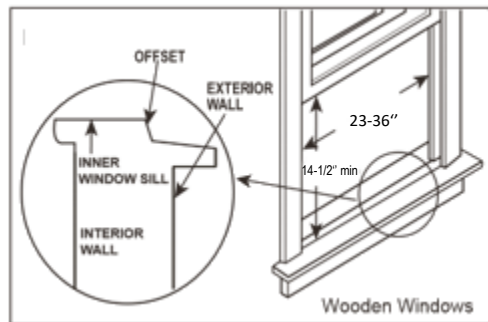
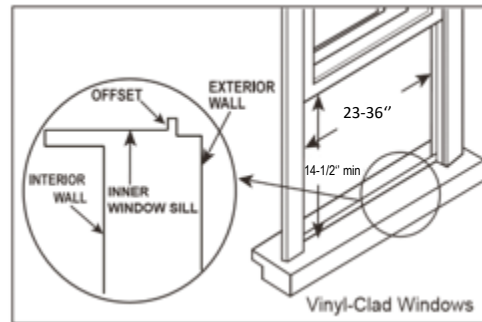

Figure 4A
Figure 4B
**NOTE:** Your air conditioner is designed to install in standard double hung windows with opening widths of 23" to 36" (Figure 4A, Figure 4B). Lower sash must open sufficiently to allow a clear vertical opening of minimum 14 1/2". Side louvers and the rear of the air conditioner must have clear air space to allow enough airflow through the condenser, for heat removal. The rear of the unit must be outdoors, not inside a building or garage.